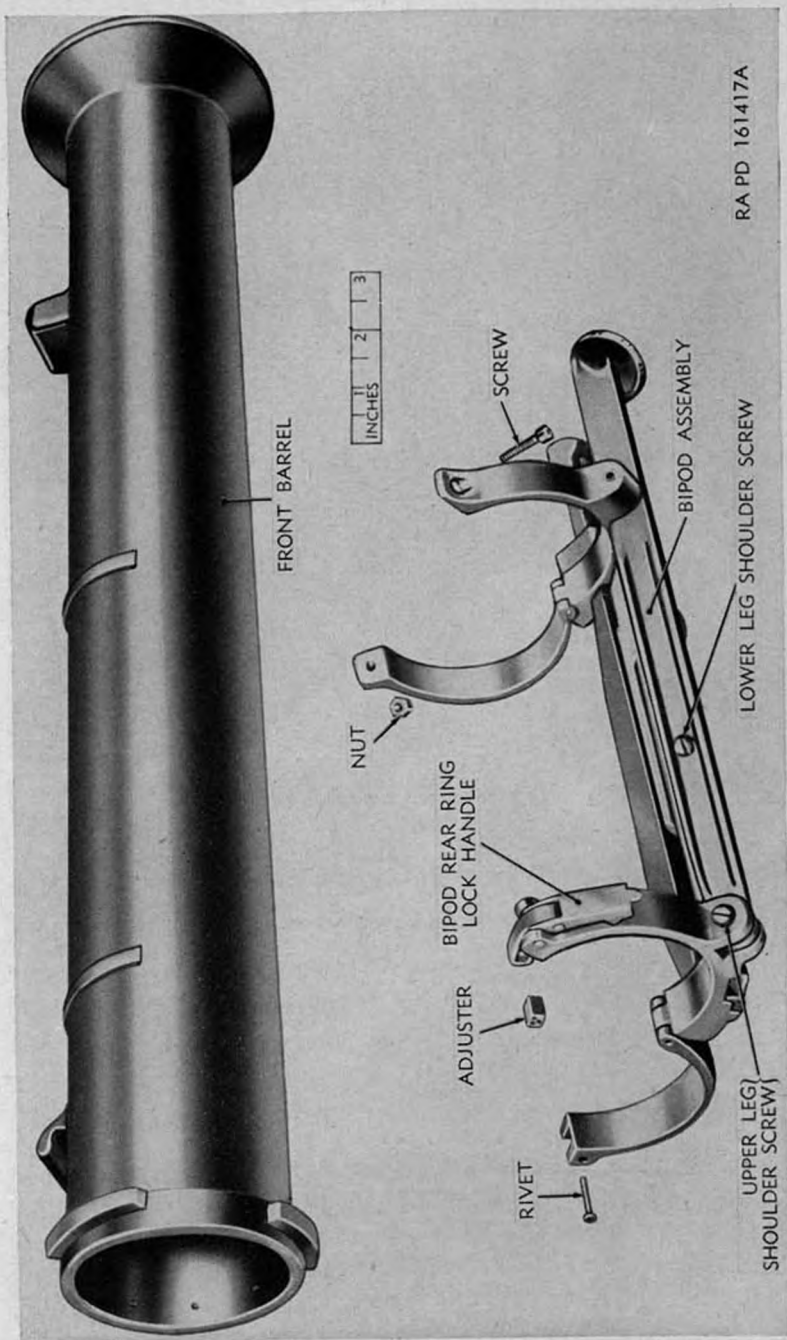

Figure 48. Bipod removed from front barrel of launcher M20B1.
- (1) File off end and drive out the rivet (fig. 48) that pins the clamping spring and adjuster to upper yoke of rear split ring.
- (2) Unscrew the socket-head screw and safety nut which fasten the upper yoke and lower yoke of the front ring together and remove the bipod assembly.
a. Bipod Legs. Partially extend the bipod and remove the upper and lower leg shoulder screws (fig. 48); then remove the bipod legs.
e. Bipod Legs. Aline the bipod legs and install the upper and lower leg shoulder screws (fig. 48).